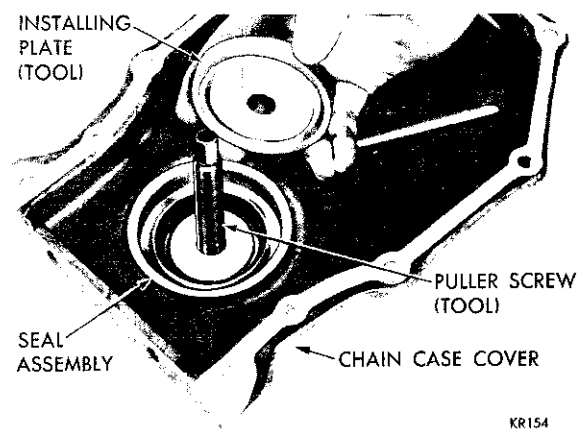

Fig. 24—Positioning Installer Plate on New Seal Using Tool C-3506
- (1) Insert the puller screw through the removing and installing plate so that the thin shoulder will be facing up.
- (2) Insert the puller screw with the plate through the seal opening (inside of the chain case cover facing up).
- (3) Place the seal in the cover opening, with the neoprene down. Place the seal installing plate into the new seal, with the protective recess toward lip of the seal retainer (Fig. 24).